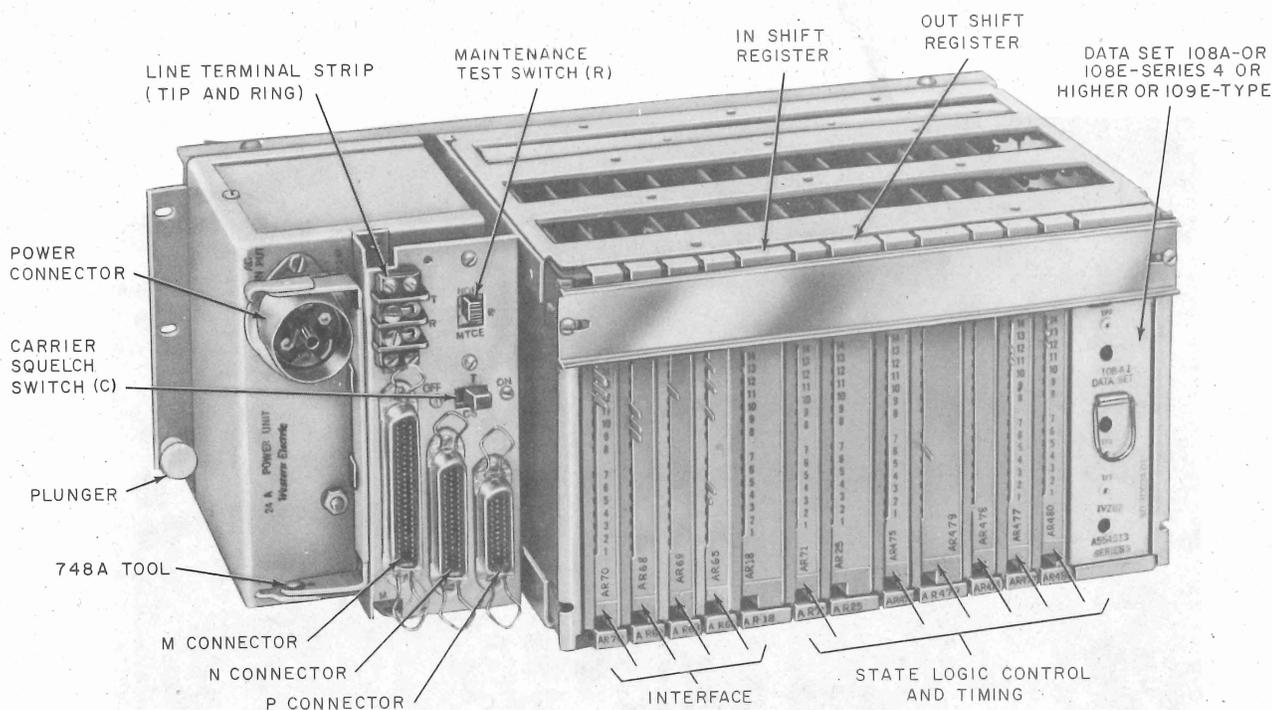

Fig. 2—DAS 820A5 Controller—Location of Circuit Packs and Components
2.04 Verify that the proper circuit packs are installed in DAS 820A5 (Fig. 2), and that the R and CS switches are positioned properly according to the service order and/or worksheet.
2.06 Using the 748A tool or lock strip bar remove AR18 and AR25 circuit packs (Fig. 2) as follows: